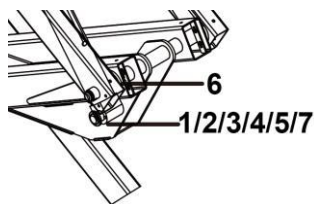

Fig. 3.15 Assembling the lower lift cylinder
a. Use the traveling crane to hoist the cylinder with the mounting holes at the bottom of cylinder aligned with the holes on the first inner arm as shown in Fig.3.15, fix the cylinder with part 1, and separate the bottom of the cylinder from the inner side of the first inner arm with part 6, as shown in Fig. 3.15.
b. After fixing the lower part of the cylinder with a shaft, fix the shaft with parts 2/3/4/5/7 as shown in Fig. 3.15 and tighten it to the specified torque;